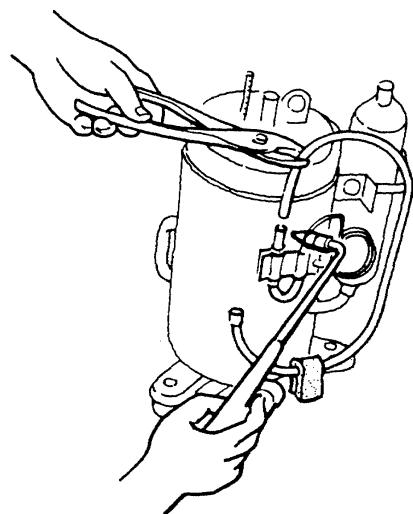

Fig. D-19
- 2) Holding it with pliers, braze the previously removed auxiliary tube onto the liquid injection tube of the new compressor. Fig. D-19